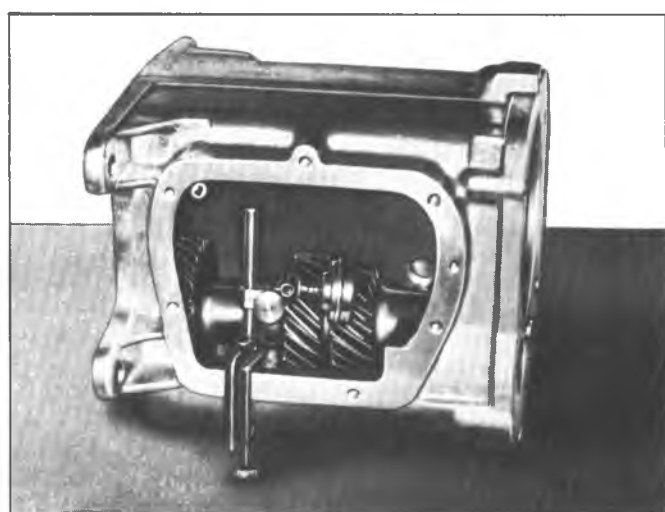

Fig. 17B-Checking Countergear End Play
6. Attach a dial indicator (fig. 17B) and check end plate of the countergear. If end play is greater than .025" new thrust washers must be installed.